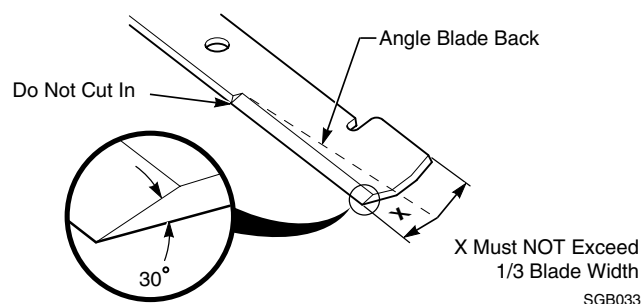

Figure 7-9 Blade Sharpening
DO NOT sharpen the blades beyond 1/3 of the width of the blade. See Figure 7-9.
1. Sharpen the cutting edge at the same bevel as the original. See Figure 7-9, Page 33. Sharpen only the top of the cutting edge to maintain sharpness.